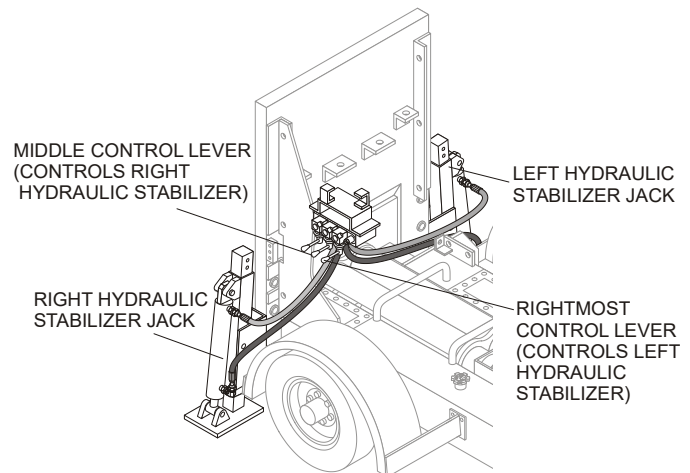

Figure 18. Control Levers for Hydraulic Rear Stabilizers
1. Push down the middle control lever (see Figure 18) to extend the right hydraulic rear stabilizer.
2. Push up the middle control lever (see Figure 18) to retract the right hydraulic rear stabilizer.
3. Push down the rightmost control lever (see Figure 18) to extend the left hydraulic rear stabilizer.
4. Push up the rightmost control lever (see Figure 18) to retract the left hydraulic rear stabilizer.